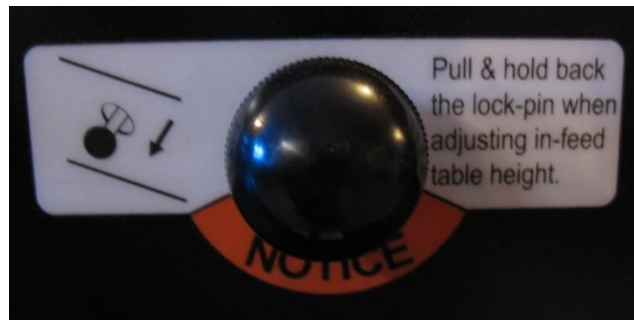

Figure 26: Lock Pin
2. Pull and hold the Lock Pin (Fig. 26) while positioning handle to 1/64". Tighten handle